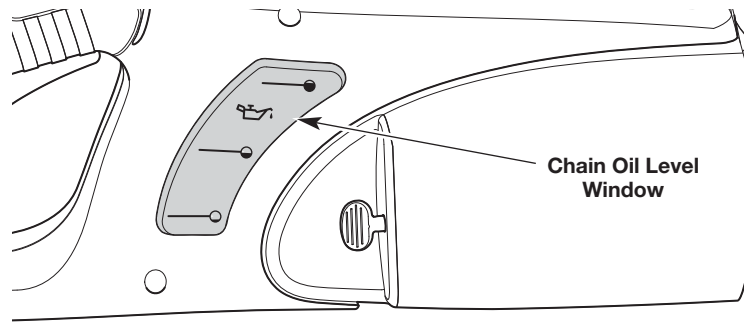

Fig. 20
2. Look into the chain oil level window; use a flashlight if necessary. The oil level should fill the window at least halfway (Fig. 20). If the oil level is too low, add bar and chain oil. Refer to *Filling the Chain Oil Reservoir*.